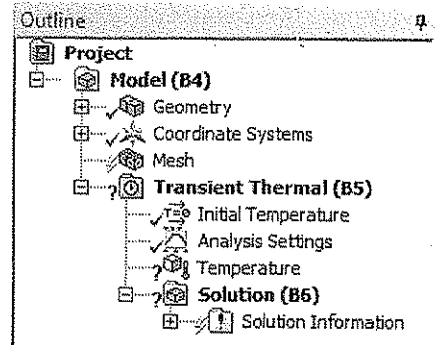

Figure 11-25 The default Tree Outline in the Mechanical window
- 2. In the Tree Outline, right-click on **Mesh** to display a shortcut menu. Figure 11-25 shows the default Tree Outline in the **Mechanical** window.